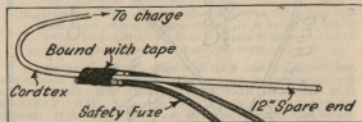

Fig 11. Initiation of cordtex (using 2 detonators to minimise risk of failure).
(b) **Initiation.**—Cordtex can be initiated by one detonator, but for the reasons given in para 4 (c) above two detonators should normally be used each with its own safety fuze. Lash the detonators firmly to the fuze as shown in Fig 11. See that the detonators are in good contact with each other as well as with the detonating fuze. It is particularly important that the closed ends of the detonators are lashed on in good contact with the fuze. The smallest gap may well cause failure. In emergency one detonator and safety fuze may be used. Where the detonating fuze is suspected
**2. Initiation.**—Use an improvised initiating set composed of 1 ft of detonating fuze fired by two detonator assemblies with detonator, safety fuze and igniter (see Fig 11). Make these sets up previously with sealing tubes at both ends of the detonating fuze. In the 2-in torpedo Mk 1 a primer is required; this fits into a recess at the male end of the tube. In the 1½-in torpedo a special primer is already in position; it contains a hole for the detonating fuze.